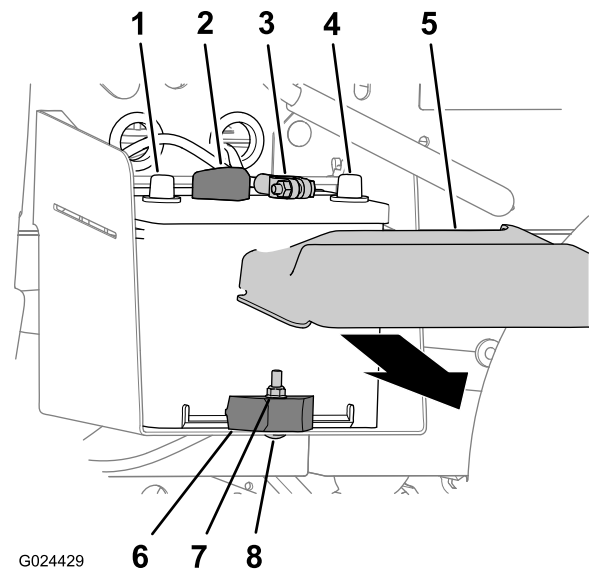

Figure 40
1. Squeeze the sides of the battery cover and remove the cover from the top of the battery (Figure 40).
2. Disconnect the positive-battery cable from the terminal of the battery (Figure 40).
3. Disconnect the negative-battery cable from the terminal of the battery (Figure 40).
2. Remove the locknut, carriage bolt, and battery clamp that secures the battery to the battery tray (Figure 40).
3. Remove the battery from the battery tray (Figure 40).
1. Align the battery to the battery tray of the machine (Figure 40).
Note: Ensure that the positive and negative posts of the battery are aligned as shown in Figure 40.
2. Secure the battery to the battery tray with the battery clamp, carriage bolt, and locknut (Figure 40).
1. Connect the positive-battery cable to the terminal of the battery (Figure 40).
2. Connect the negative-battery cable to the terminal of the battery (Figure 40).
3. Install the battery cover onto the top of the battery (Figure 40).